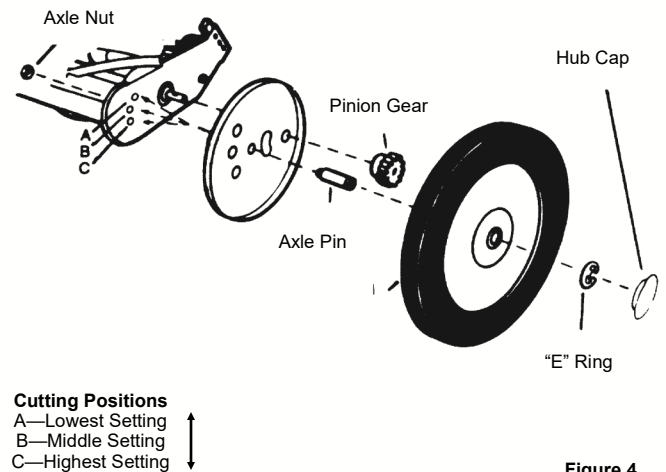

Figure 4
### To Reduce Cutting Height Below 2" (Figure 4)
- After the nut has been removed, pull forward on the wheel, dust cover and axle assembly until the end of the axle clears the side of the mower. Move the axle to one of the other two holes to get the height you desire (see figure 4). Replace and retighten axle nut (repeat for other side).